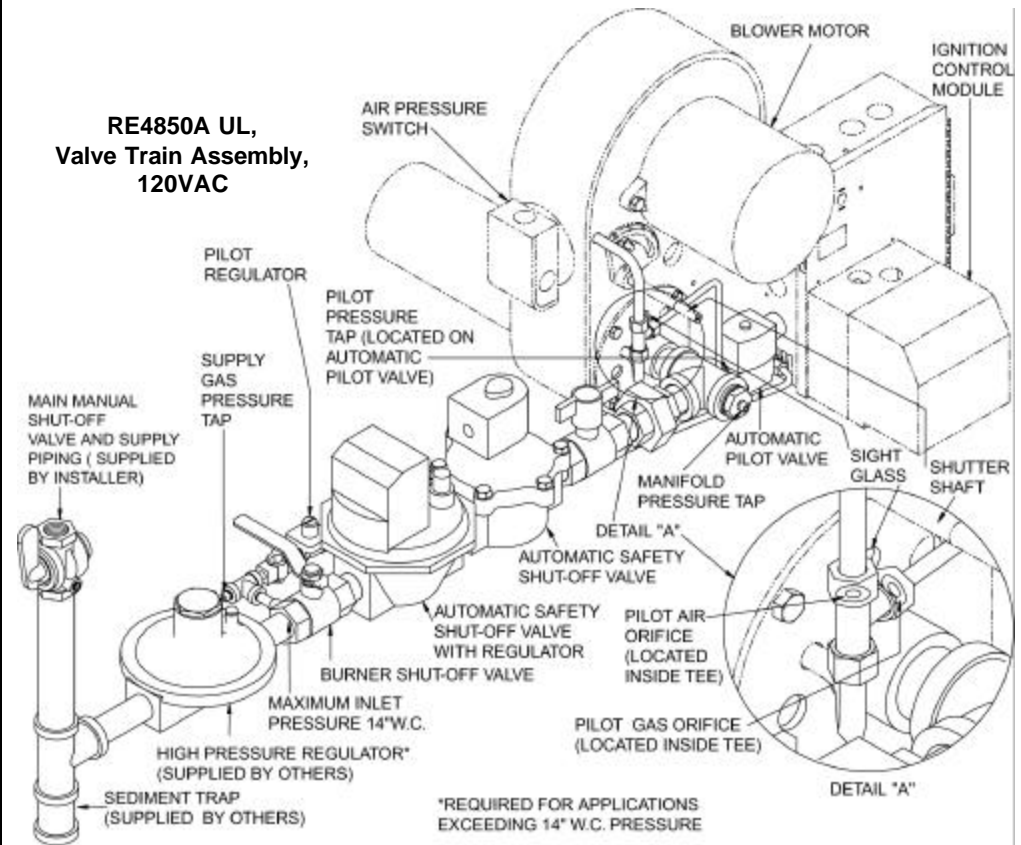

Figure 5: Piping Diagram - RE4400 and RE4850A
⚠ CAUTION: The available gas pressure should be within the limits shown in SPECIFICATIONS section. Excessive pressure may damage electric valves, regulators and manual valves. If the supply pressure exceeds the 14.0"W.C. maximum, a suitable high pressure regulator must be installed between the Main Manual Shut-Off Valve and burner shut-off valve as shown in Figure 5.
- Provide a sediment trap, union and 1/8" pressure tap in piping close to burner as shown in Figure 5.
- If the burner piping must be rearranged because of space limitation, be sure to carry out the general arrangement shown in Figure 5.